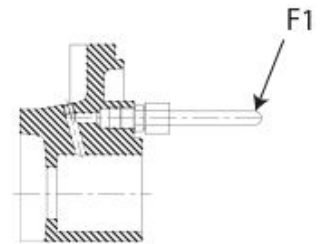

Figure 7
- Cooling, sealing and flushing of seal piping must be connected only to the designated connections located on the pump (**Figure 7,8**).